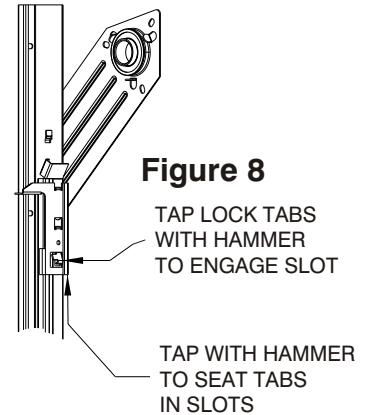

Figure 8
2. Seat the tabs with a hammer and secure bottom bar stops by tapping the lock tabs into place with a hammer. Lock tabs should be in full contact with the guides to insure proper operation. See Figure 8.